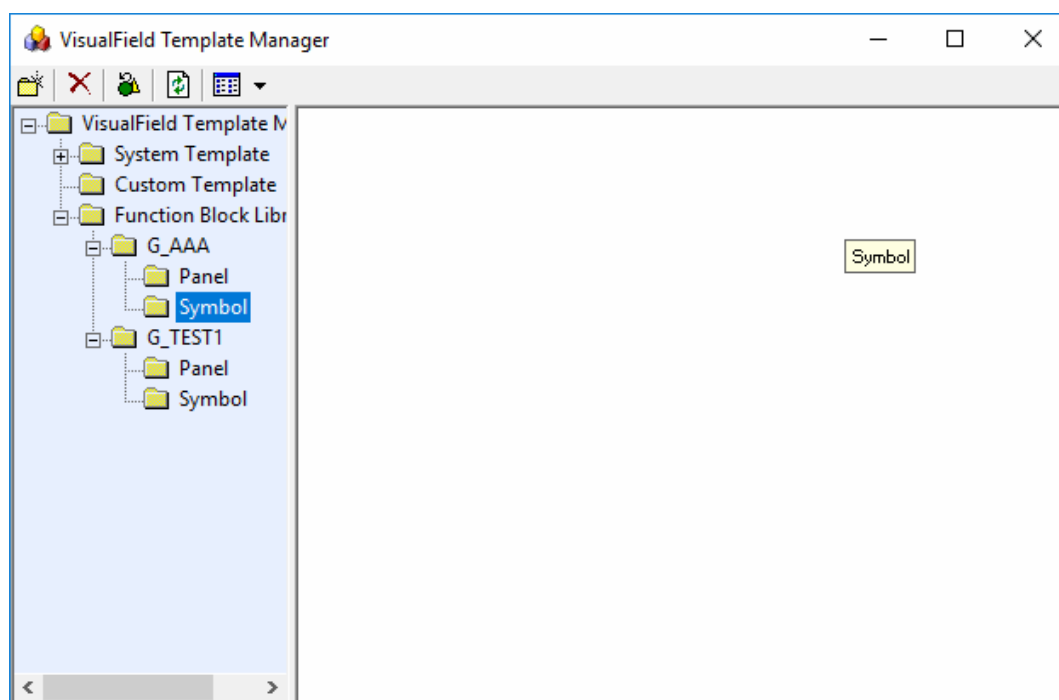

Figure 3-39 Dialog box of binding object in Common Template Bar with tag
- After selecting tag, click **OK** to invoke the object in Common Template Bar in the graphics, as shown in Figure 3-39.